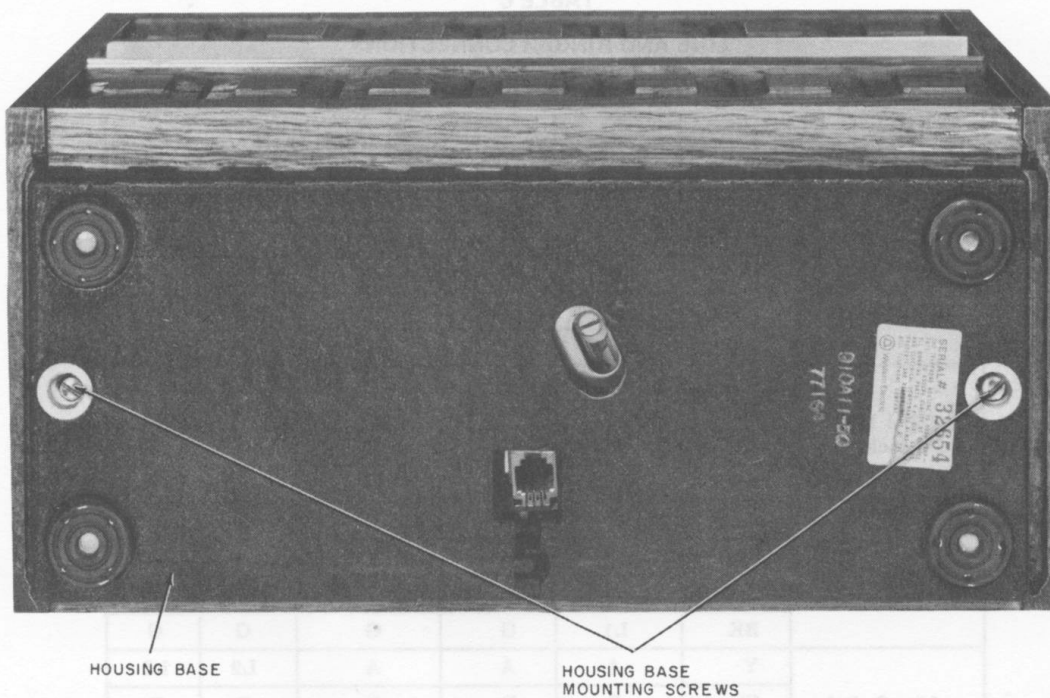

Fig. 4—Removing Metal Housing Base (910A or 2910A Telephone Set)
(3) Unplug the mounting cord from the base of the telephone set.
(4) Remove the two screws, one at each end, from the metal housing base of the wooden box (Fig. 4).
(7) Reassemble metal housing base to the box end brackets. See Fig. 4 and 6.